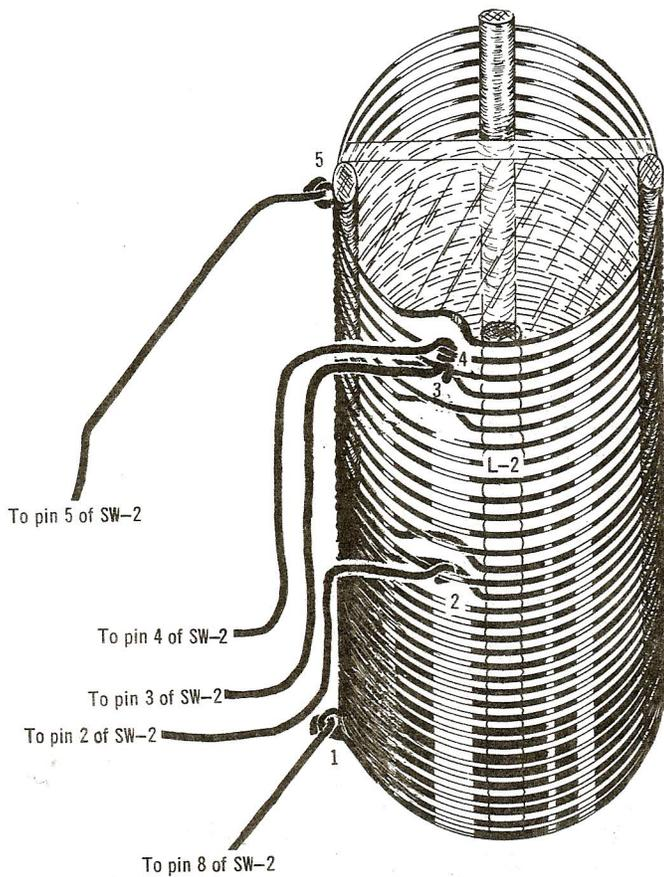

Figure 20. Coil Tap Detail.
- 103. Connect a length of #16 bus wire from tap 1 of coil L-2 to lug 8 of SW-2. (S-at lug 8 of SW-2 only) NOTE: When connecting leads to the coil taps, form a hook on the lead, then clamp the hook securely around the coil tap. Refer to Figure 20.
- 104. Connect a length of #16 bus wire to lug 1 of switch SW-1. (NS) Thread it through lug 1 of variable capacitor C-9 and carry the wire over to lug 2 of C-9. Make certain the jumper from lug 1 to lug 2 of C-9 does not touch the capacitor frame center shield. (S-at lugs 1 and 2 of C-9 only).
- 105. Connect a length of #16 bus wire from lug 2 of switch SW-2 to tap 2 of coil L-2. (S)
- 106. Connect a length of #16 bus wire from lug 3 of SW-2 to tap 3 of L-2. (S)
- 107. Connect a length of #16 bus wire from lug 4 of SW-2 to tap 4 of L-2. (S)